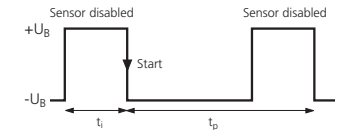

Fig. 3: External synchronization signal
- Apply a square-wave signal to the sync-input with pulse width t_i and repetition rate t_p (see fig. 3 and technical data).